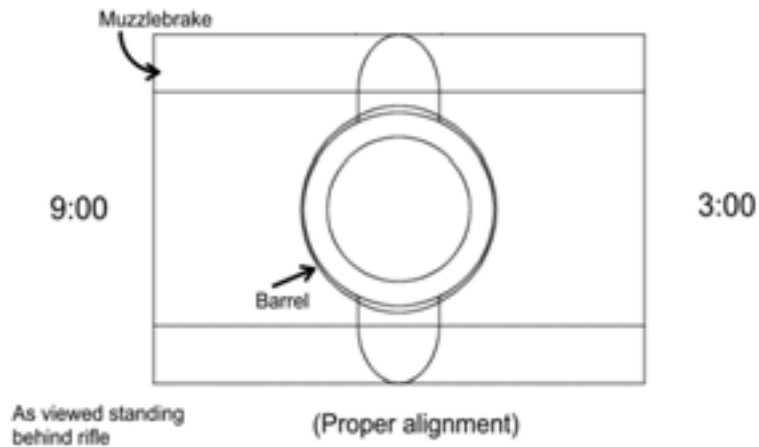

Figure 2-32a. Proper alignment of muzzle brake
- (3) Use a 2 lb (1 kg) dead blow hammer and strike the left side of the muzzle brake to align it in the proper – 9 o'clock to 3 o'clock – orientation. See Figure 2-32a.